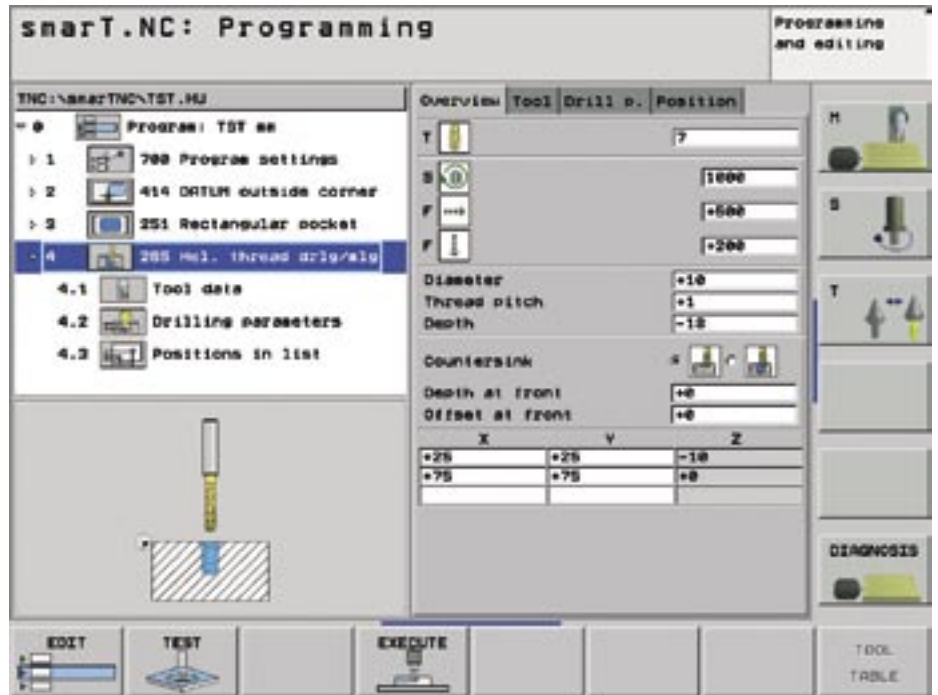

Figure 6: Work plan shown in outline
- smarT.NC's split screen enables fast navigation within the structured working plan in the left window. Opening and closing various levels shows the well ordered machining steps. (Figure 6)